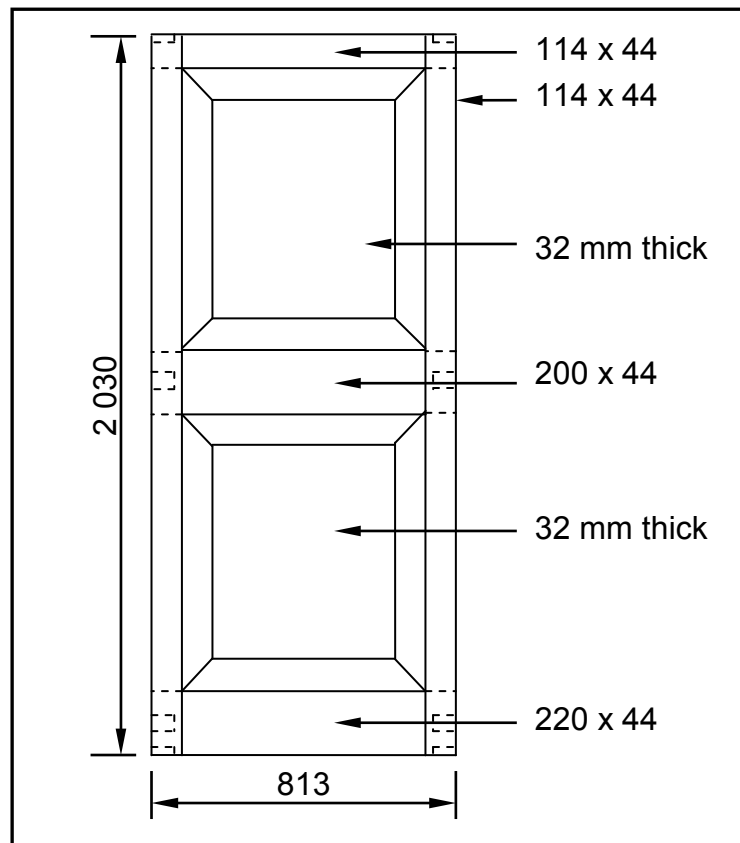

FIGURE 4.2
- (1)
- 4.2 FIGURE 4.2 below shows the front view of a two-panel door. Study the drawing and complete the incomplete cutting list below. Write only the answer next to the question numbers (4.2.1 to 4.2.7) in the ANSWER BOOK.